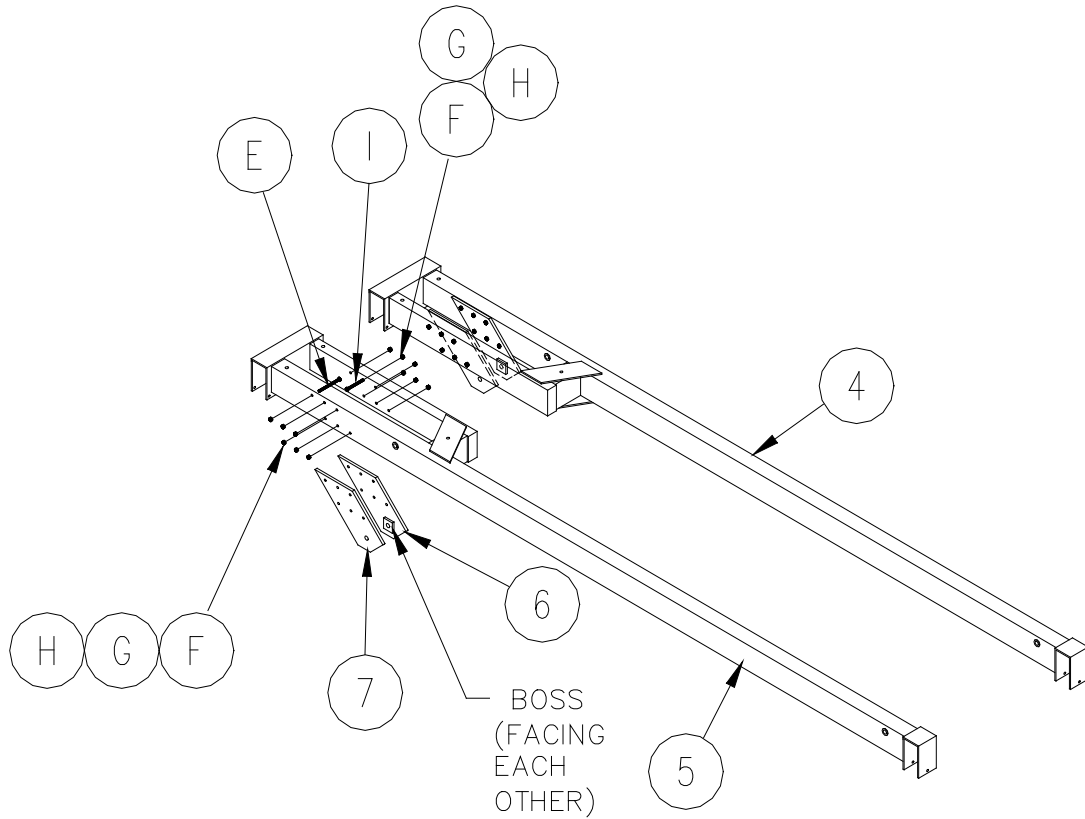

Figure 3-2.
1. Refer to Figure 3-2. Install the left (6) and right (7) cylinder support plates onto the right hand main frame (5). Install cylinder support plates so that the welded bosses on the support plates are facing each other.
2. Secure the cylinder support plates with hardware E, F, G, H, & I. Use fastener (E) in the 3" wide frame tube. Use fastener (I) in the 2" wide tube frame. Install bolts so that the nuts are on the outside of frame.
3. Repeat steps 1 and 2 above to assemble left hand main frame (4).